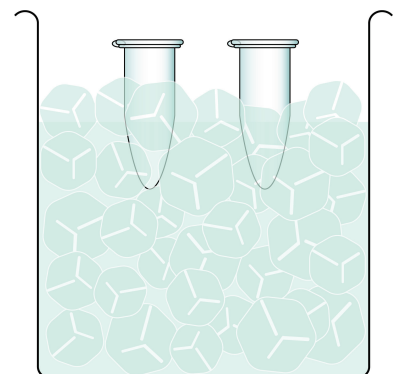

Fig. 21
17. After 90 seconds, quickly return the tubes to the ice bath for 2 minutes (Fig. 21).